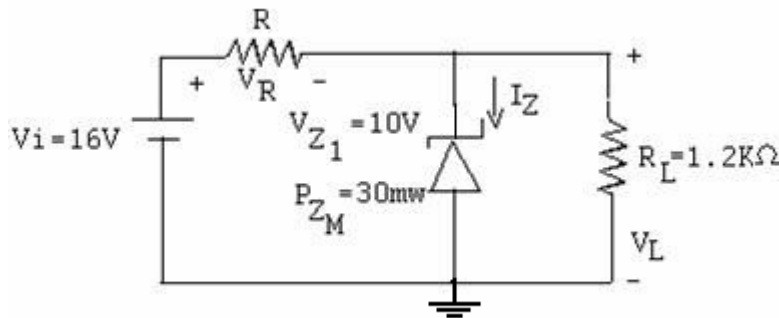

Figure.1
- b) For the Zener diode circuit shown in Figure.1, determine V_L , V_R , I_Z & R . [5+10]